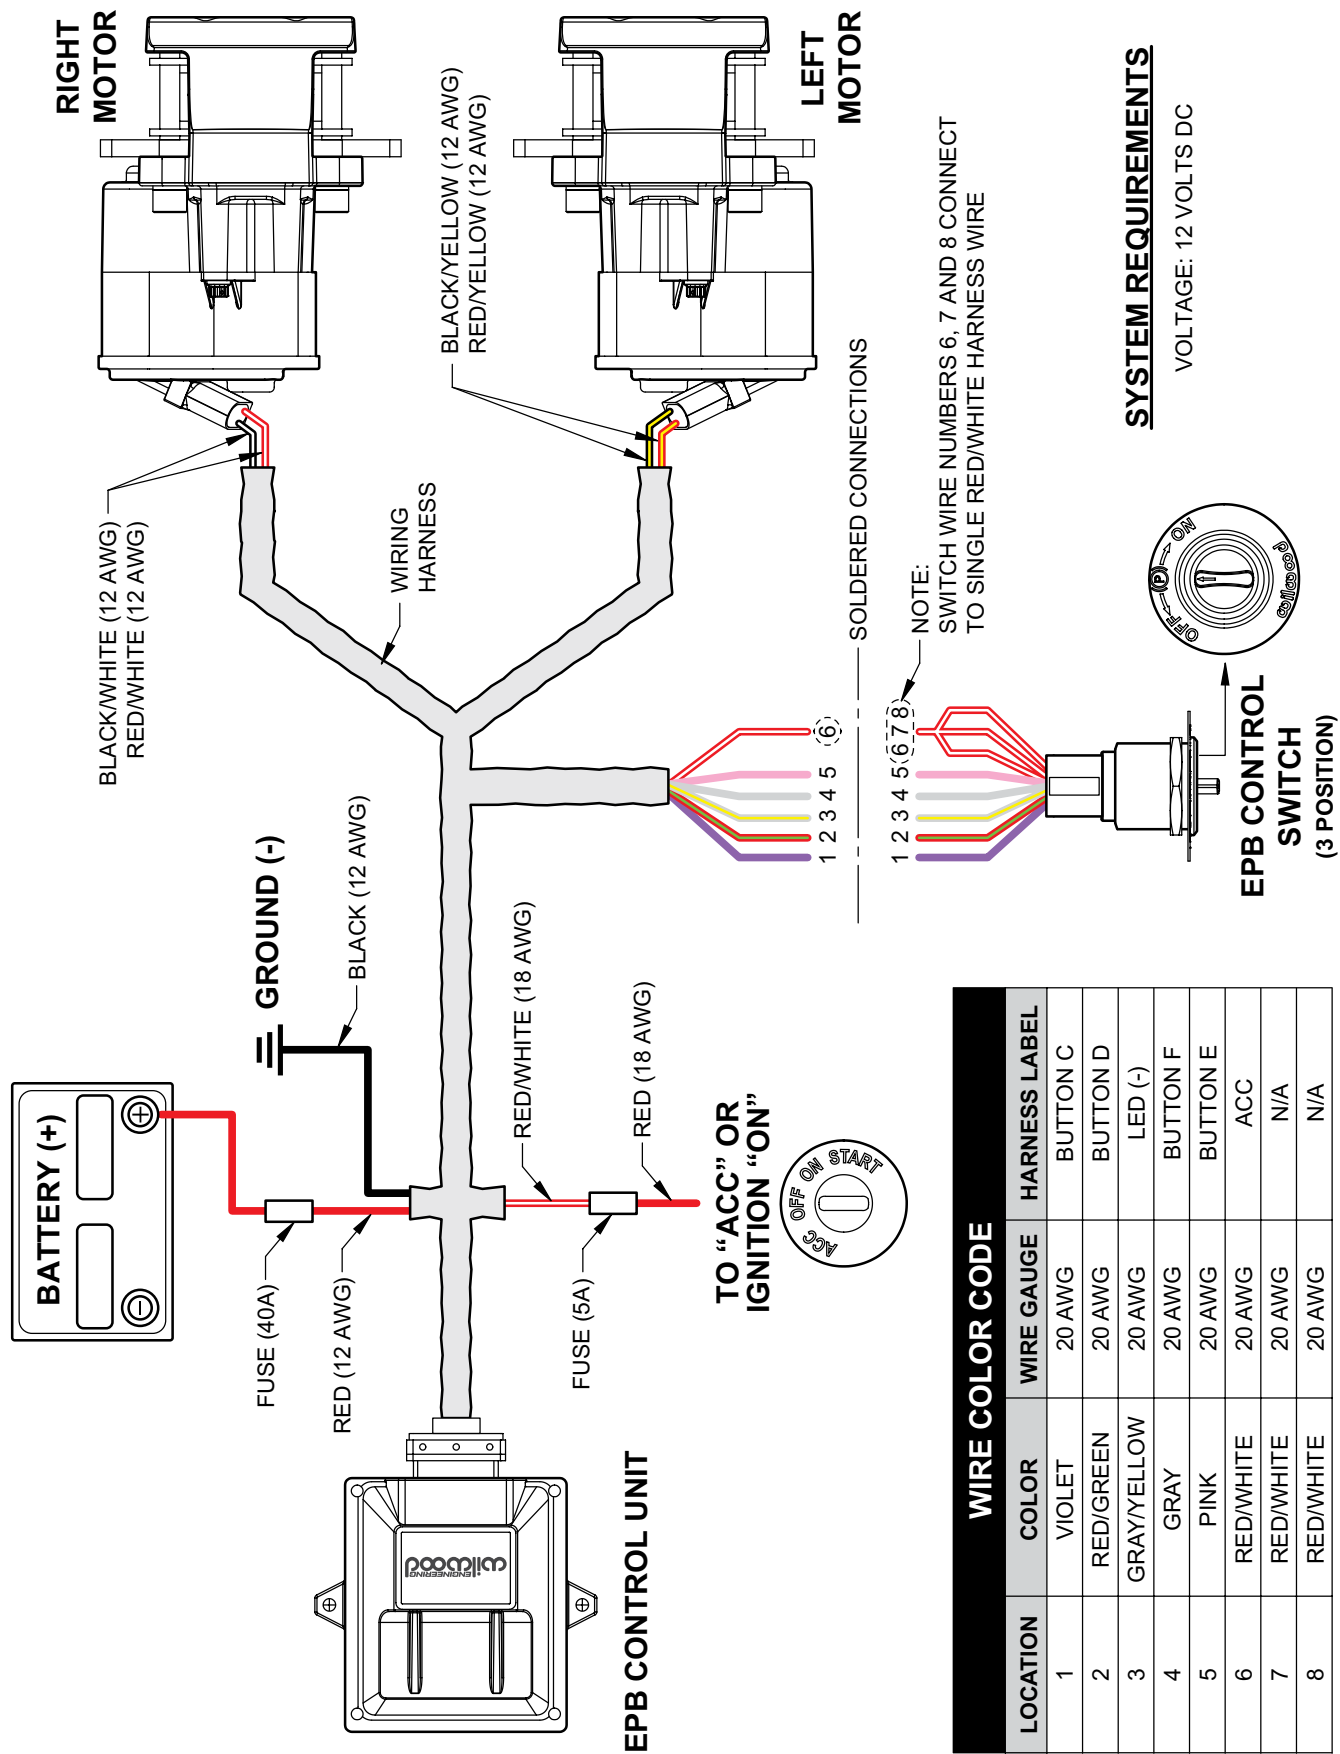

Figure 4. EPB Wiring Diagram
- **EPB WIRING HARNESS** - All wiring harness leads are labeled – refer to wiring diagram, Figure 4. Carefully route harness cables/wires to prevent contact with moving or rotating components and away from heat sources and pinch points. **NOTE: Wilwood EPB harness is designed for use in many different vehicle applications and it is the installer's responsibility to properly route cables/wires and ensure adequate clearance and retention for EPB components.**
Wiring installation - Refer to wiring diagram, Figure 4